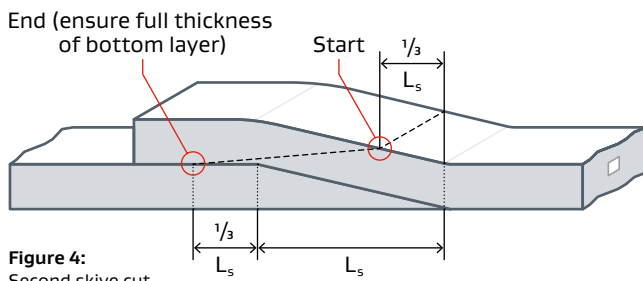
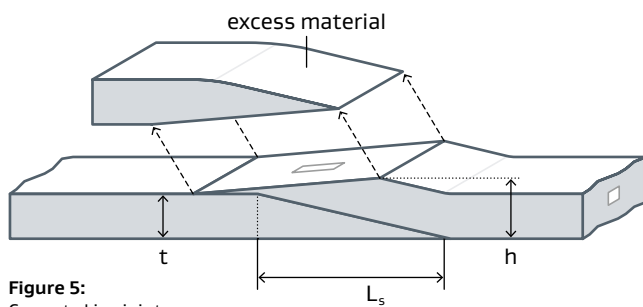

Figure 4:
Figure 5:
- The start point of the second skive cut is located at the top of the gasket material, at a distance of $\frac{1}{3} (L_s)$ from the pointed end of the bottom skive cut (see Figure 4). This will make the tallest section of the skive $\frac{1}{3}$ thicker than the base-layer gasket, indicated by (h) in Figure 5.